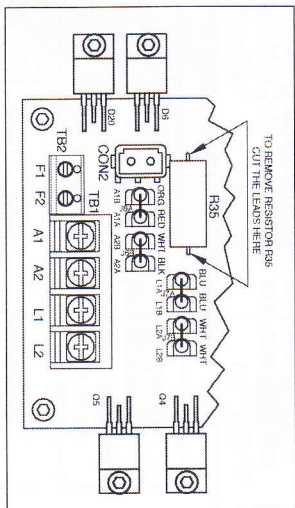

FIGURE 16 – REMOVING RESISTOR R35
Note: For low (L) motor current settings (0.8A, 0.5A, 0.4A, 0.3A, and 0.2A), it is necessary to remove resistor R35. Cut the leads at the locations shown in Figure 16.
Note: For low (L) motor current range settings (0.8A, 0.5A, 0.4A, 0.3A and 0.2A), it is necessary to remove resistor R35 by cutting it out of the circuit as shown in Figure 16 on page 10.
Note: For low (L) motor current range settings (0.8A, 0.5A, 0.4A, 0.3A and 0.2A), it is necessary to remove resistor R35 as shown in Figure 16.